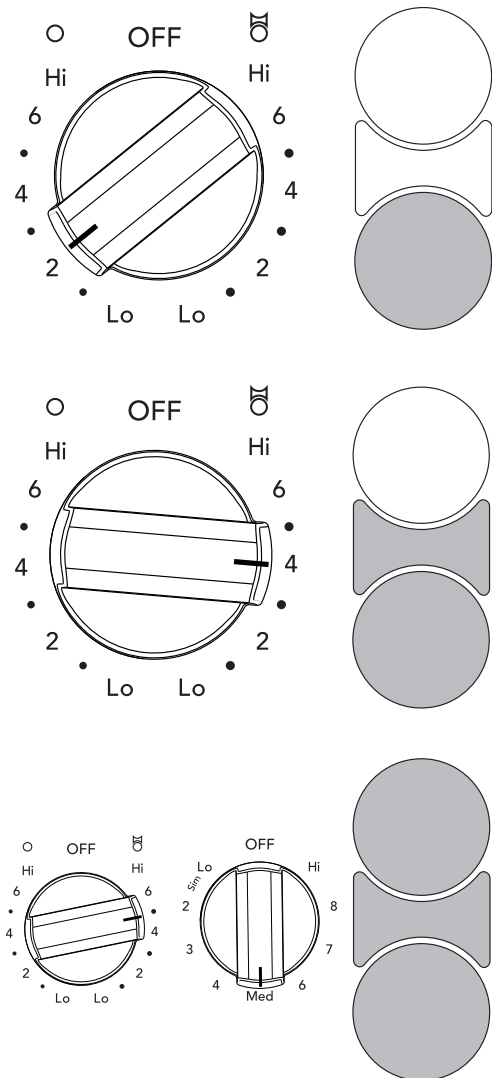

Figure 10: Bridge element knob settings
2. Push in and turn the control knob to the circular element symbol for regular cookware or to element and bridge symbol for extended cookware designed for use on multiple elements (see Figure 10).